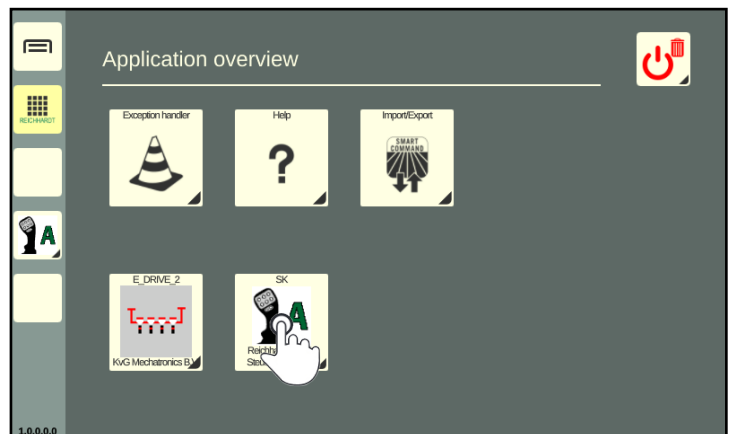

Fig. 45: Tapping the application in the application overview
- the application overview (see Fig. 45),